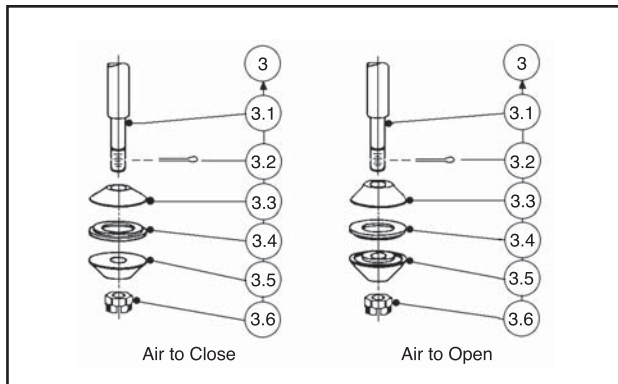
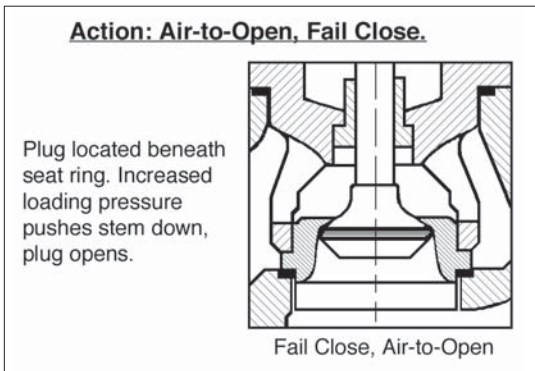

Figure 3: Composition Seat Arrangement
Figure 6: ATO-FC Action
14. Using a sharp pointed tool, remove packing washer (23) and packing spring (24).
16. Inspect guide bushing (8) in-place, as the bushing (8) is a press fit into the bonnet (2). If worn or “scored”:
- a. Remove bonnet (2) by removing yoke nut (17).
- b. Remove snap-ring (9).
- c. Hydraulically press guide bushing (8) “out”; press “in” new guide bushing (8) into bonnet (2).
- d. Replace snap-ring (9).
- e. Reinstall bonnet (2) back together with actuator yoke (1), securing with yoke nut (17).
17. Examine seat ring (11), composition seat (3.4), stem (3.1) or plug (3) or adapters (3.3) (3.5) for wear. Replace all worn parts. Refer to Figure 3 for correct composition seat arrangement.
- a. Examine stem (3) in critical finish zone where contact is made with the packing (6). It is desirable to restore the surface of the stem (3) to a #8 Ra μ -in surface finish; metal removal should not exceed 0.001-inch material. A deeply scratched or pitted stem (3) should be replaced.
- b. Plug head of stem (3) assembly for metal seated design may be hand lapped using suitable lapping compound. If hand lapping will not restore surface finish to an acceptable degree, the replacement of stem (3) assembly and seat ring (11) is recommended.
- c. For composition seated design, the TFE valve seat (3.4) can be replaced if the adapters (3.3/3.5), cotter pin (3.2) and castle nut (3.6) are not wear damaged. Grip stem (3.1) in vise (using protective covering (directly above (3.3/3.5) adapter). Remove cotter pin (3.2), castle nut (3.6), adapter (3.3 or 3.5) and valve seat (3.4). Insert new valve seat (3.4) and reassemble to desired seat arrangement. See Figure 3.
18. Examine the inner surface of the bonnet's (2) stuffing box. It is desirable to restore the surface of stuffing box to a #16 Ra μ -in surface finish; metal removal should not exceed 0.001-inch material. A deeply scratched or pitted bonnet (2) should be replaced.
19. Examine packing follower (5) for corrosion. Replace if significantly corroded:
- a. Remove followerbushing(25)frominsideof packing follower (5) and replace with new.
20. Remove gaskets (12) (13), clean gasket facing surfaces and replace with new gaskets (12) (13).
21. For ATO-FC action units, place seat ring (11) over end of stem (3) in proper orientation, and insert the stem (3) until it appears thru the top side of the bonnet (2). See Figure 6.
6. Remove bonnet gasket (12) from body (1) recess. Remove seat ring gasket (13) from body (1) recess. Clean gasket facing surfaces in body (1) and on bonnet (2).
NOTE: The changing of unit action from direct ATC-FO or from reverse ATO-FC action is accomplished not in the actuator, but in the body by reversing the orientation of the plug (3) with respect to the seat ring (11). See Figures 6 and 7.
- a. With this action, the seat ring (11) is retracted from the body (1) when the actuator assembly (AA) is removed.
- b. Loosen jam nuts (18). Loosen packing flange nuts (15).